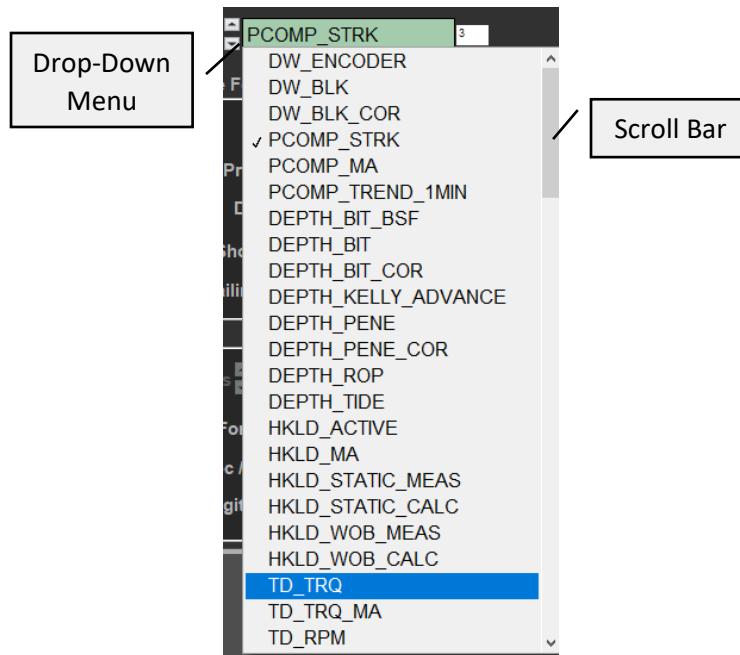

Figure 15. Plot Parameter Drop-Down Menu
To setup a waterfall plot in the Graphical Display Screen, select the desired parameter (*See Figure 7*) by using the drop-down menu in the Plot Control / Program Status functional area (*See Section C(2) - Plot Control / Program Status*). First, click on the “Edit” button located above the lane to configure, the iRIS Plot Editor Window will open (*See Figure 15 below*)
- b. Select one of the parameters that appear in the drop-down menu. To find a particular parameter, begin typing the name. Alternatively, click and drag the scroll bar located to the right of the menu. *See Figure 15 above*